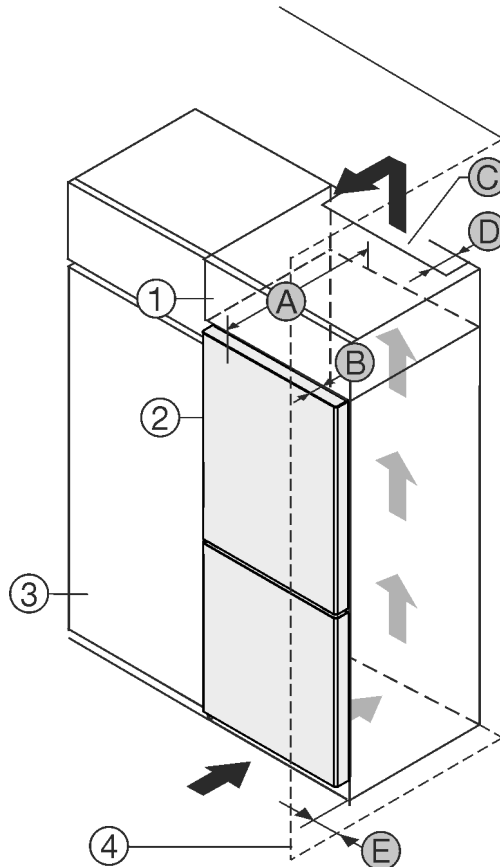

Fig. 1
- (1) Top cupboard
- (2) Appliance
- (3) Kitchen cabinet
- (4) Wall
- (A) Appliance depth
- (B) Door depth
- (C) Ventilation cross section
- (D) Distance to the back of the appliance
- (E) Distance to the side of the appliance
You can place the appliance directly beside the kitchen cabinet Fig. 1 (3).
There must be a ventilation shaft at the depth Fig. 1 (D) of the back of the top cupboard over the entire width of the top cupboard.
The ventilation cross-section Fig. 1 (C) must be maintained under the ceiling.
If the appliance is set up with the hinges next to a wall Fig. 1 (4), the distance between the appliance and the wall must be at least 13 mm .
If the appliance is set up with the hinges next to a wall Fig. 1 (4), the distance between the appliance and the wall must be at least 20 mm .
In order to be able to fully open the door, the appliance must protrude by the depth of the door *Fig. 1 (B)* from the front of the kitchen cabinet. The appliance may protrude further depending on the depth of the kitchen cabinets *Fig. 1 (3)* and whether wall spacers are used.